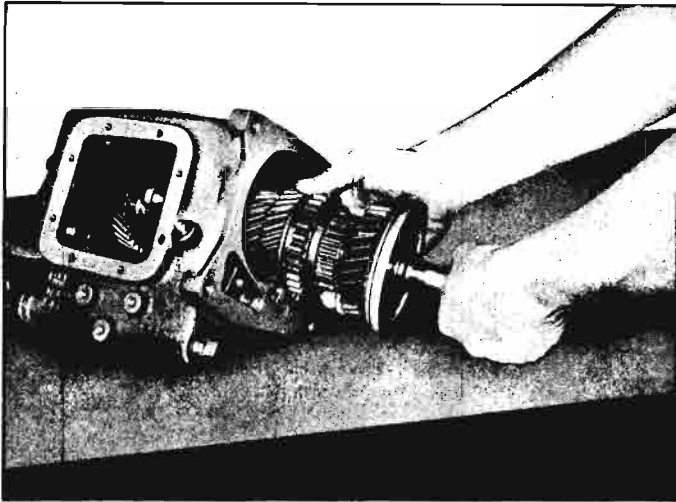

Fig. 6D-34—Removing Assembled Mainshaft Components
8. Remove mainshaft with assembled gears and rear bearing retainer as shown in figure 6D-34. It may be necessary to jiggle the output shaft, making sure the clutch gear does not separate from mainshaft. After removal of mainshaft from transmission, shift synchronizer sleeves to neutral.